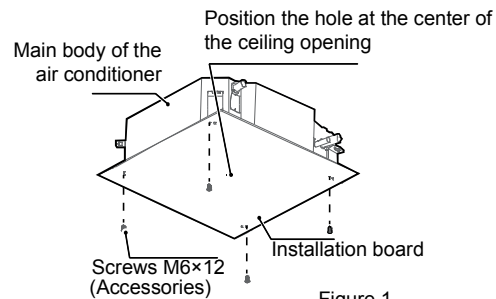

Figure 1
- Drill a 910 mm × 910 mm square hole into the ceiling based on the layout of the installation board (see Figures 1, 2, and 3).
- After lifting the unit, use M6×12 screws (accessory) to secure the installation board on the main body of the air conditioner to pre-determine the size and position of the opening in the ceiling (see Figure 1).